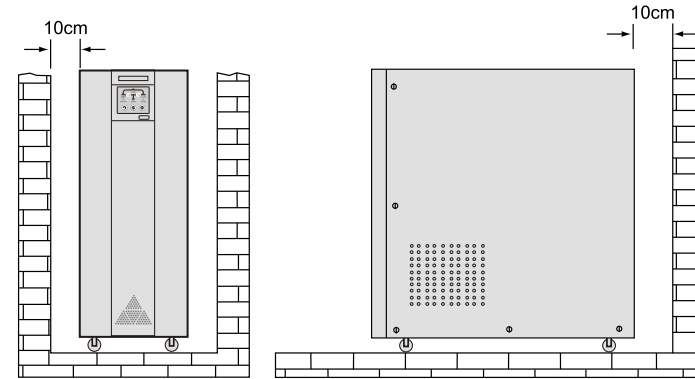

Figure 4
2. Please place the UPS in the place where keeps good ventilation, rear panel of UPS and two side faces should keep more than 10cm away from the wall. (Figure 4)